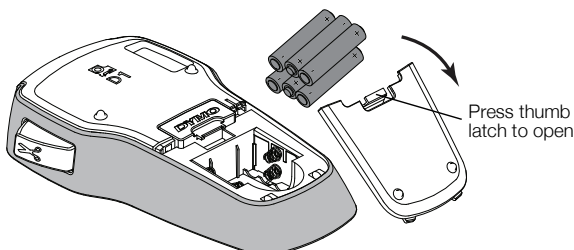

Figure 2
- 1 Press the thumb latch on the back of the label maker to remove the battery compartment cover. See Figure 2.